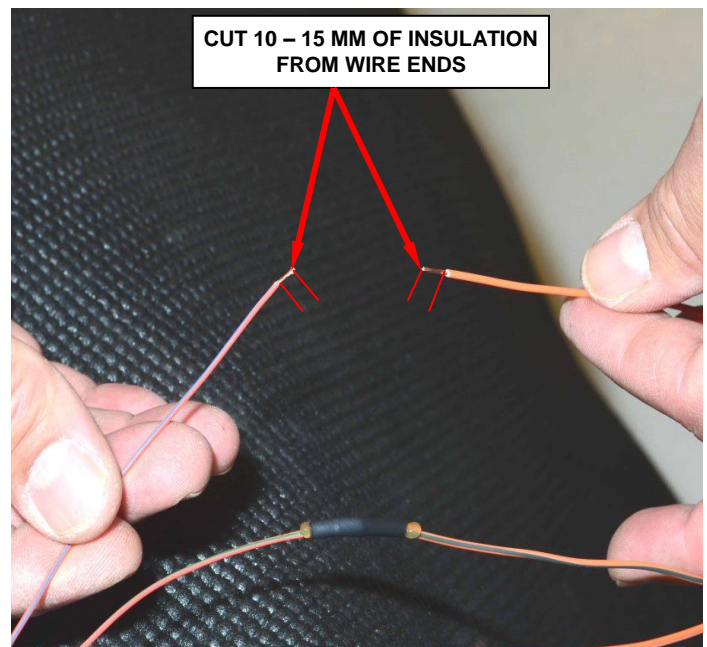

Figure 10 – Strip 10 – 15 mm of Insulation from the End of the Wires
- b. Strip approximately 10 - 15mm of insulation from the end of the wires (Figure 10).